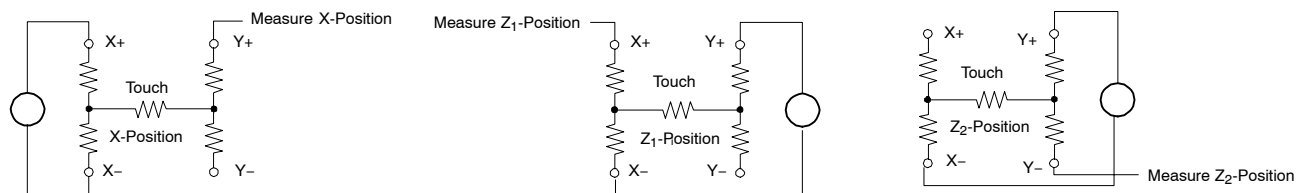

Figure 16. Pressure Measurement
Measuring touch pressure (Z) can also be done with the TSC2100. To determine pen or finger touch, the pressure of the *touch* needs to be determined. Generally, it is not necessary to have very high performance for this function; therefore, the 8-bit resolution mode is recommended (however, calculations are shown with the 12-bit resolution mode). There are several different ways of performing this measurement. The TSC2100 supports two methods. The first method requires knowing the X-plate resistance, measurement of the X-Position, and two additional cross panel measurements (Z₂ and Z₁) of the touch screen (see Figure 16). Using equation 1 calculates the touch resistance: